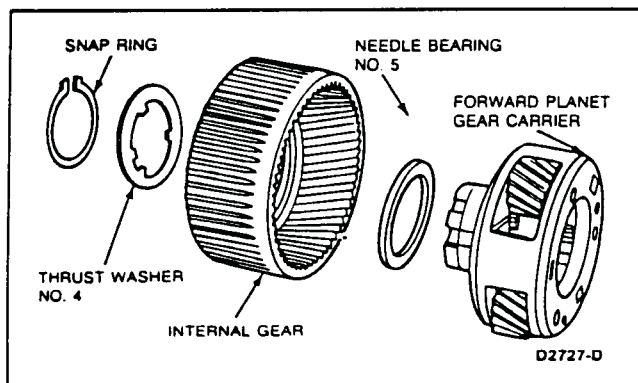

FIG. 33 Separation of Planet Gear Carrier from Internal Gear
1. Remove the snap ring, the planet gear carrier internal gear and thrust washer No. 4 (Fig. 33).